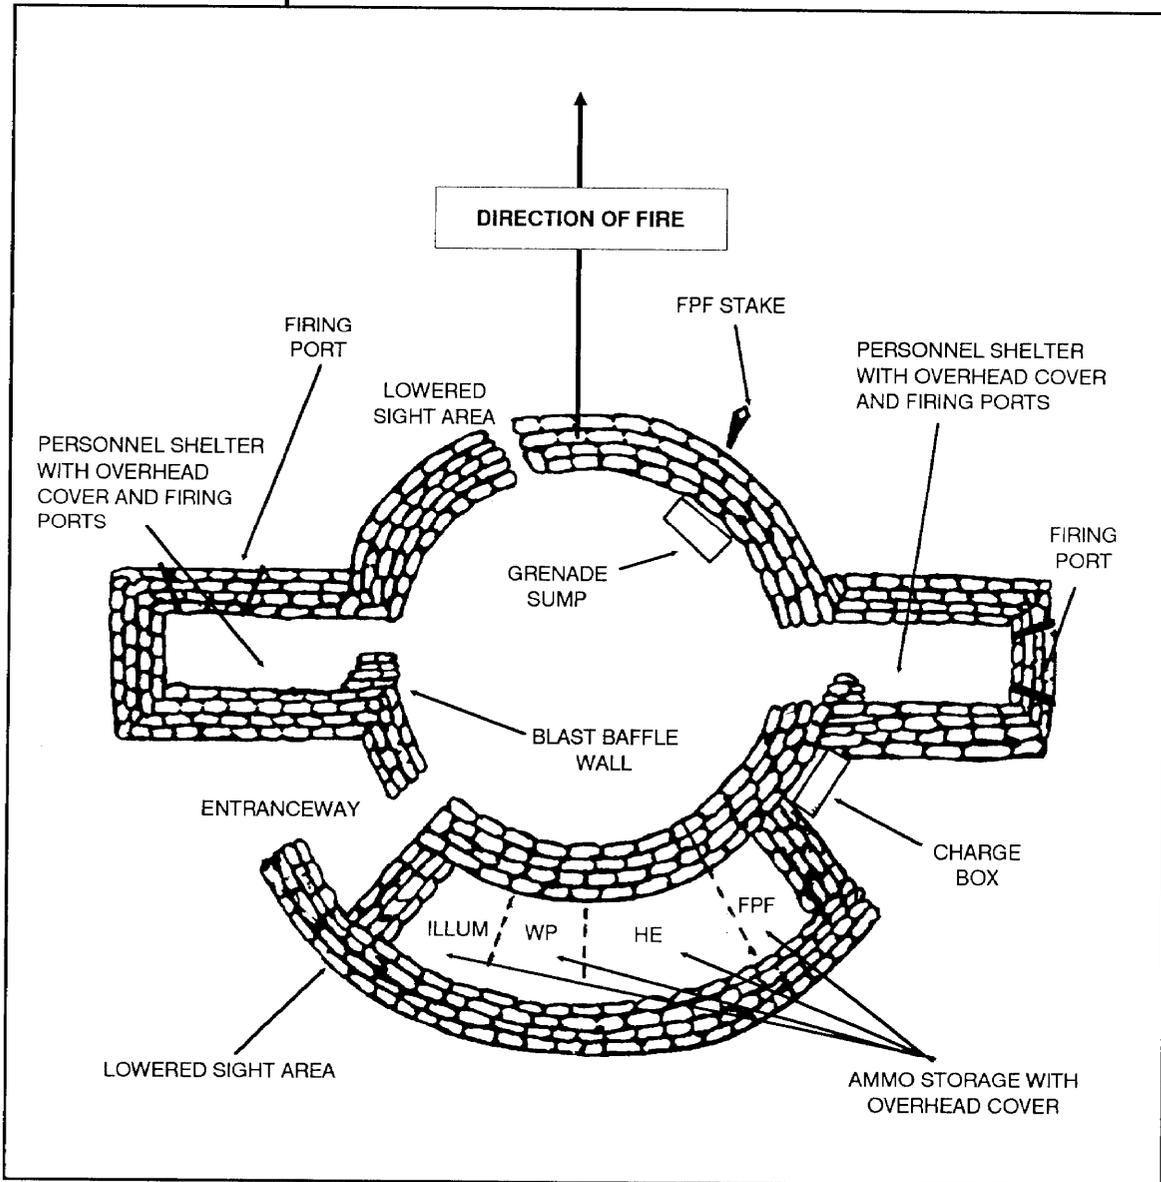

Figure 7-10. Completed dismantled mortar position (overhead view) with refinements.
(1) Add another sight area to allow 360-degree traverse.
(2) Dig grenade sumps (at least one) in the circular pit. They are dug against the wall of the pit, using the trench-style pit as shown in FM 7-8.
(3) Add an entry with a 90-degree blast baffle. This can enter either the circular pit or one of the personnel shelters. Eventually, it should connect with a crawl trench toward the FDC.
(4) Dig a hole, outside the circular pit, near the ammunition bunker for placing excess charges until disposal. Personnel should place an empty ammunition box in this hole; the cover will protect the excess charges from flash fires. Sandbags should be placed on the box lid when not placing charges into it (Figure 7-10, see page 7-12).
(5) Place stakes around the rim of the circular pit corresponding to priority targets. Personnel mark the stake corresponding to the FPF with a distinctive mark; these stakes are for reference. Stakes are not as accurate as using aiming posts, but can be used if the aiming posts are disturbed or obscured. These stakes are useful for illumination targets, since precise lay of the mortar is not required. They can make the illumination mortar more responsive. Put the stakes in securely and do not disturb them.
(6) Install alternate wire lines from the mortar positions to the FDC and tag the alternate and primary lines.
(7) Sandbag the base of the aiming posts without disturbing them. This protects them from being blown over by enemy fire.
(8) Bury all communications wire at least 4 inches below the ground.